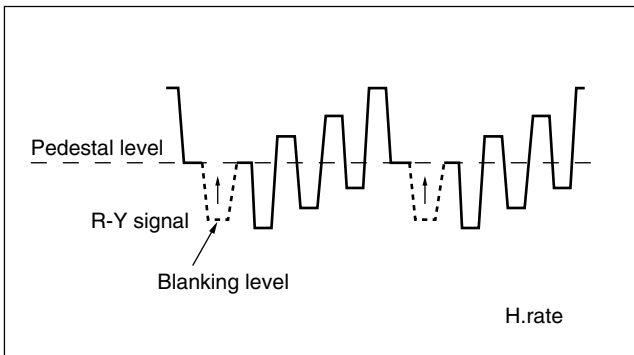

Fig. 3-5-4 DEMOD Fo-2
- Connect an oscilloscope to TP5 round (B-Y), and adjust L2 so that the blanking level of the B-Y waveform is equalize to the pedestal level as shown in Fig. 3-5-4.